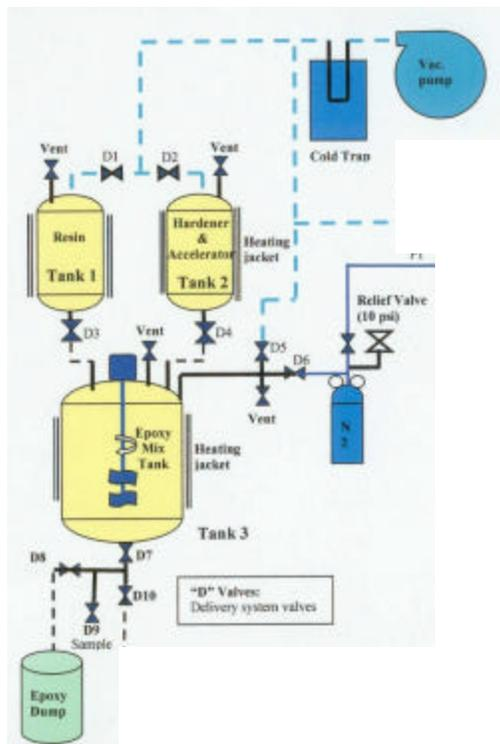

Figure 3- Epoxy Mixing System
- 6.10.3 Pour the pre-weighed component of Part A (resin) into Tank No. 1. See Figure 3- Epoxy Mixing System.